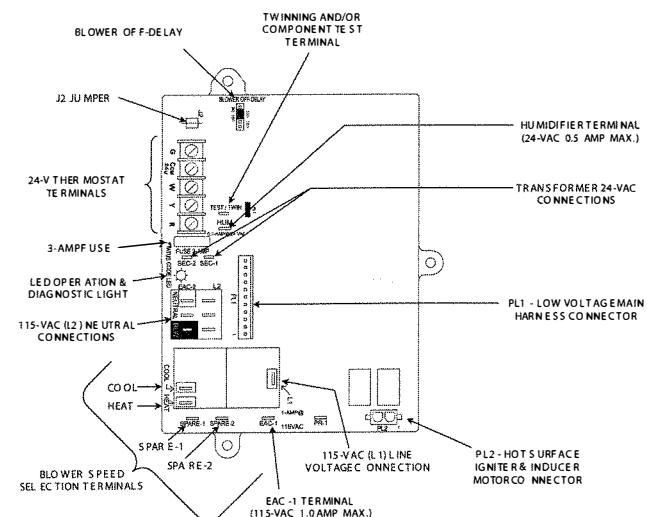

Fig. 2 - New Style Furnace Control Board
- Humidifier connection is removed from thermostat terminal block. It is now a 1/4-in. spade terminal, next to the thermostat terminal block. See Fig. 2.
- a. The 11-pin connector connects to PL1 on the furnace control board. See Fig. 2 and 3.
- b. The 2-pin connector which has 2 black wires connects to PL2 on the furnace control board. See Fig. 2 and 3.
- c. The 2 white wires connect to the 115-volt Neutral spade connections, located in front of PL1 on the new furnace control board. See Fig. 2 and 3.
5. Connect the transformer to the new furnace control board. See Fig. 2.
6. Connect black wire from furnace auxiliary junction box to L1 on the new furnace control board. L1 is located on the blower enable relay. See Fig. 2.
7. Connect white wire from furnace auxiliary junction box to one of the 115-volt Neutral spade connections located in front of PL1. See Fig. 2.
8. Connect the blower motor leads to the new furnace control board. See Fig. 2.
11. Set blower off delay. **Blower Off Delay Jumper Select** is located on the top-center portion of board. See Fig. 2. It is factory set at 120 seconds.